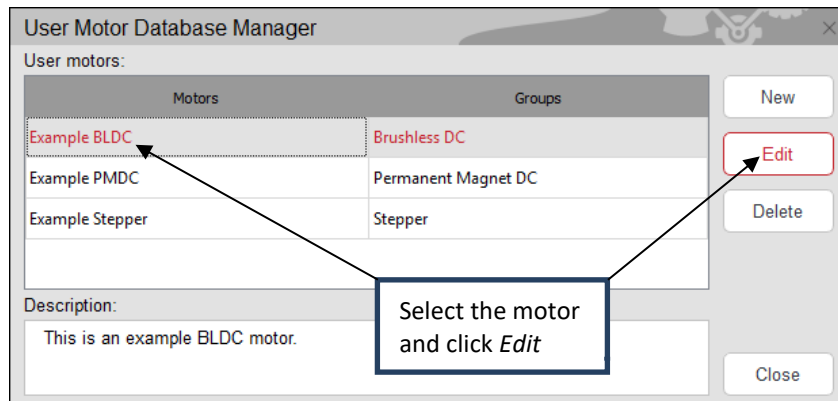

Figure 76: Edit Motor
- Open the *User Motor Database Manager* window and select the motor to be edited and click *Edit* as shown in Figure 76.